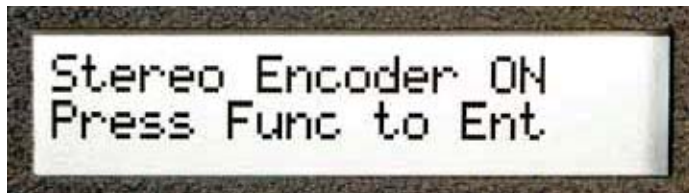

Figure 3-6. Press the RAISE or LOWER key to Change the LCD Display
2. To change the Stereo Encoder setting, press the RAISE or LOWER key, which will result in the alternate setting (see *Figure 3-6*).